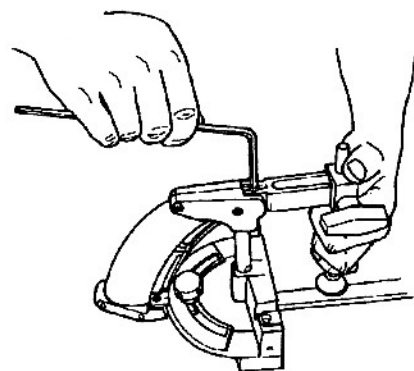

Fig. 65
73. Use a 5/32" Allen wrench to attach the quick clamp to the safety grip, as shown in Fig. 65.